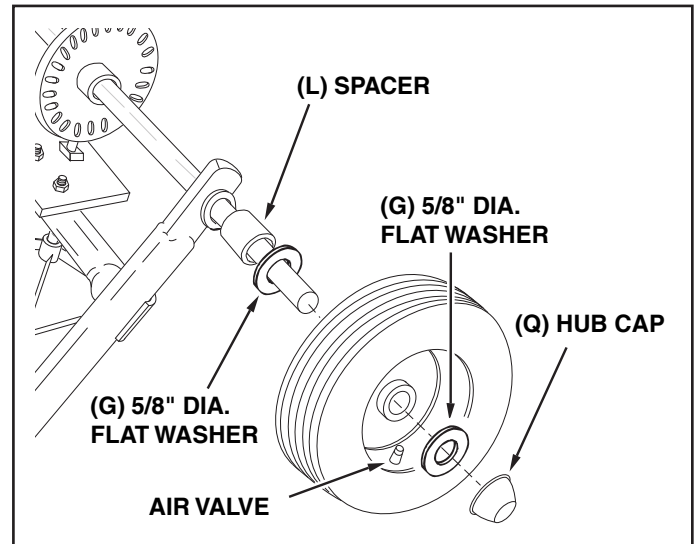

FIGURE 3
- Select the end of the axle with no cross hole. Assemble a spacer (L), a 5/8" flat washer (G), a wheel (air valve facing out) and then another 5/8" flat washer (G) onto the axle. See figure 3.
- Install a hub cap (Q) by tapping it carefully onto the axle with a hammer. See figure 3.